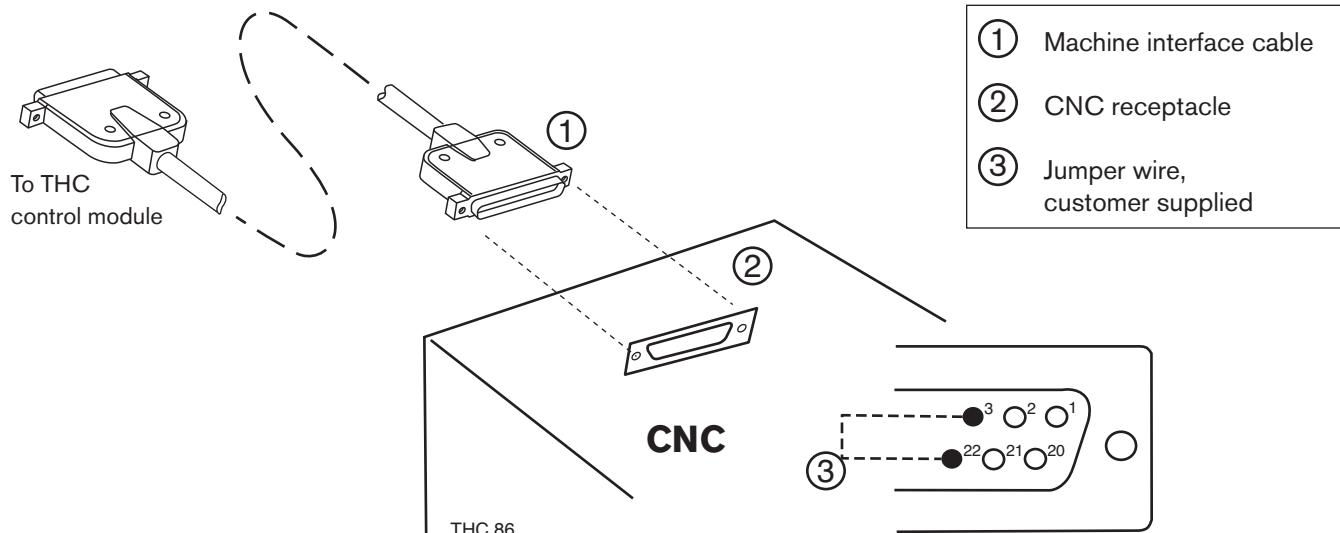

Figure 3-9 CNC cable-installed signal
1. Cable-installed signal – See Figure 3-9.